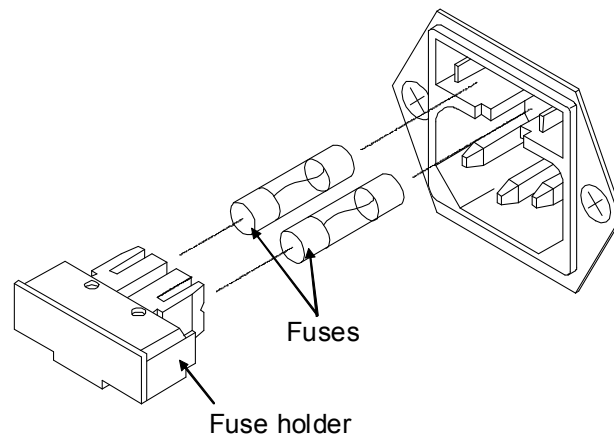

Figure 5.3 Replacement of fuse
- (1) Turn off the power and disconnect the AC power cable from the "AC INPUT".
- (2) Insert a flat-head screwdriver under the fuse holder, then pull forward to remove the fuses with the holder (Fig. 5.3).
- (3) Take the old fuses out of the holder, and replace with new ones. Insert the fuse holder in its original position.
- (4) Plug the power cable into the "AC INPUT" and turn the power switch on, then check that the instrument can be operated.